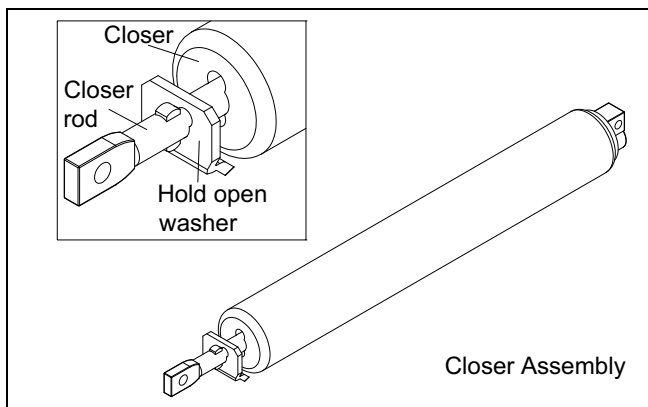

Figure 13
4. Place hold-open washer on closer rod and position over lugs. This will give proper tension for installation. See figure 13.